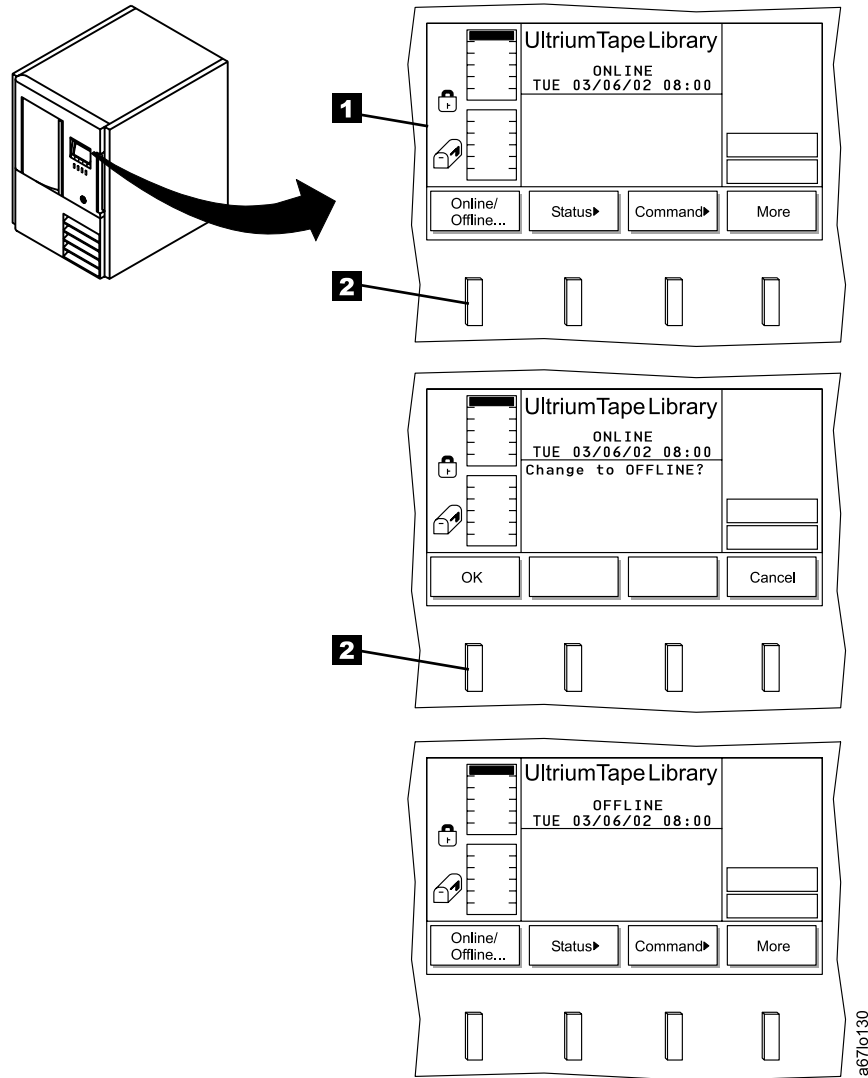

Figure 39. Operator panel
8. The library firmware automatically initializes and starts the inventory/teach process. When the Main Menu displays on the operator panel ( **1** in Figure 39), place the library in the Offline state by pushing the button **2** below the **Online/Offline** softkey. Follow the instructions on the screen, then push the button **2** below the **OK** softkey.